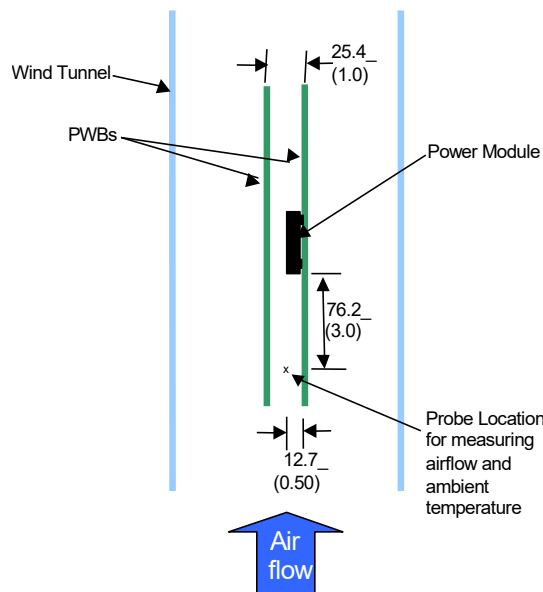

Figure 28. Thermal Test Setup.
Power modules operate in a variety of thermal environments; however, sufficient cooling should always be provided to help ensure reliable operation. Considerations include ambient temperature, airflow, module power dissipation, and the need for increased reliability. A reduction in the operating temperature of the module will result in an increase in reliability. The thermal data presented here is based on physical measurements taken in a wind tunnel. The test set-up is shown in Figure 28. The preferred airflow direction for cooling the module and the thermal reference points, Tref used in the specifications are shown in Figure 29. For reliable operation the temperatures at these points should not exceed 120°C (IC700) and 115°C (C702). The output power of the module should not exceed the rated power of the module ( $V_{o,set} \times I_{o,max}$ ). Please refer to the Application Note “Thermal Characterization Process for Open-Frame Board-Mounted Power Modules” for a detailed discussion of thermal aspects including maximum device temperatures. Increased airflow over the module enhances the heat transfer via convection. The thermal derating of figures 2, 8, 14 and 20 show the maximum output current that can be delivered by each module in the indicated orientation without exceeding the maximum Tref temperature versus local ambient temperature (TA) for several air flow conditions. The thermal derating curves were generated using a 12 layer evaluation board with 3oz copper in inner layers and 2 oz in outer layers